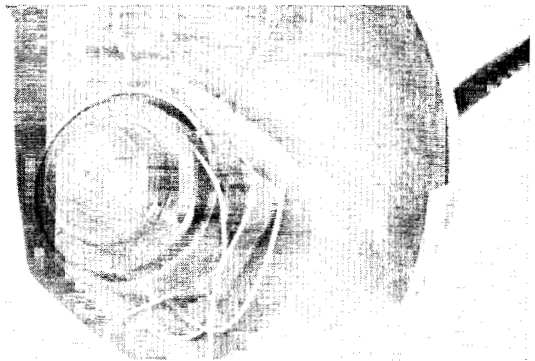

Figure 5.0
5.0 CHECK FOR LINE/GRASS STOPPING HEAD ROTATION (fig. 5.0)